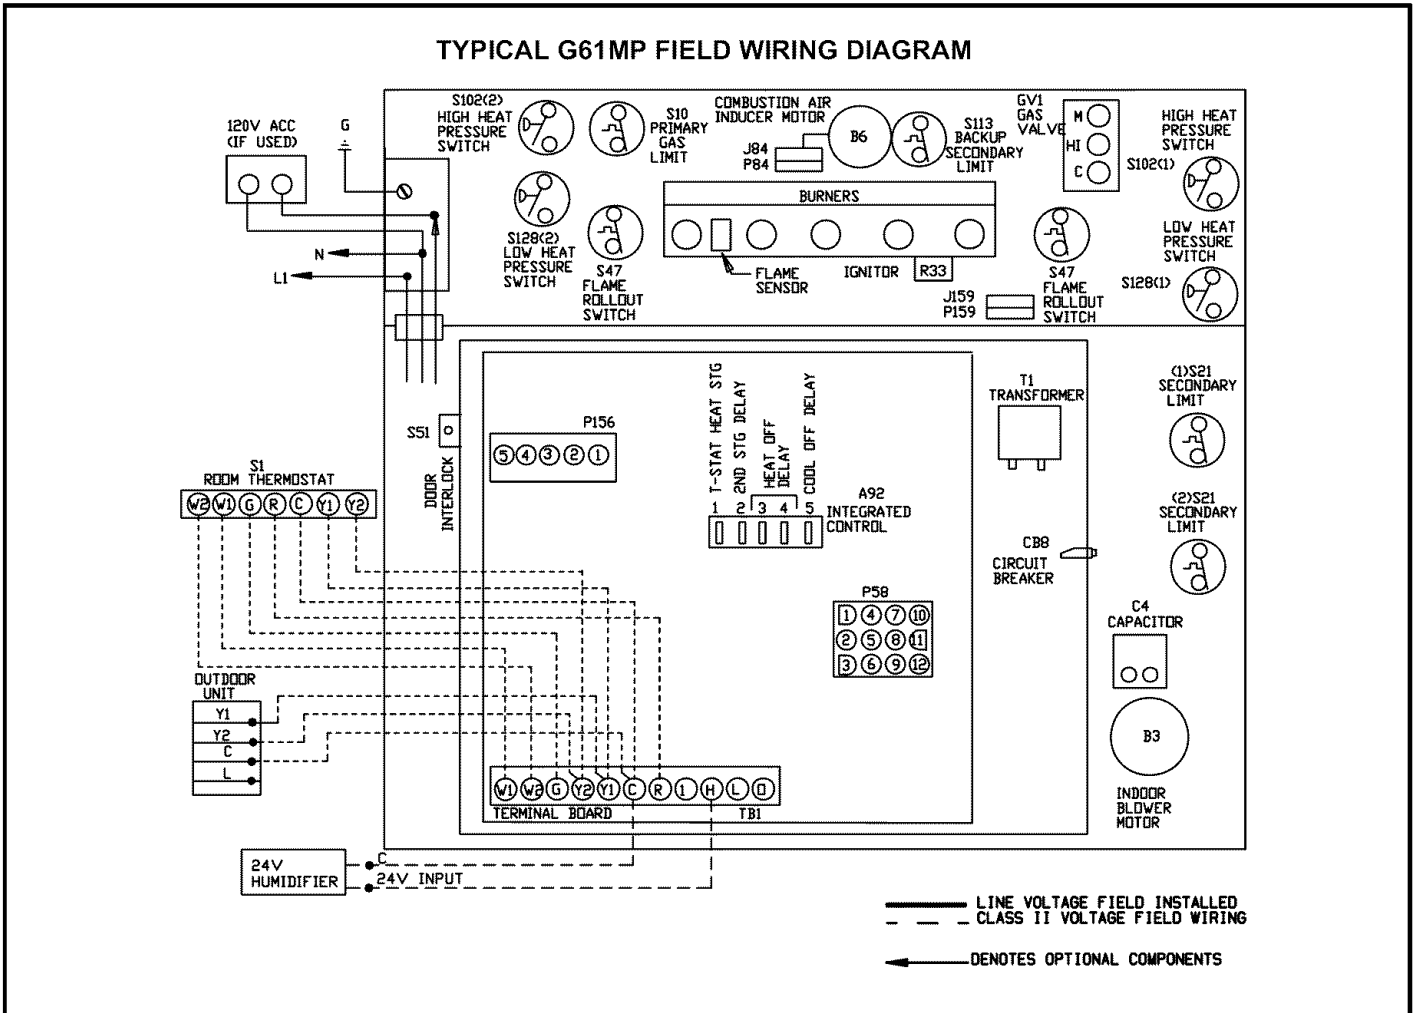

FIGURE 54
Refer to figure 54 and table 10 for field wiring and figure 57 for schematic wiring diagram and troubleshooting.
- 5 - Complete the wiring connections to the equipment. Use the provided unit wiring diagram and the field wiring diagram shown in figure 54 and table 10. Use 18-gauge wire or larger that is suitable for Class II rating for thermostat connections.